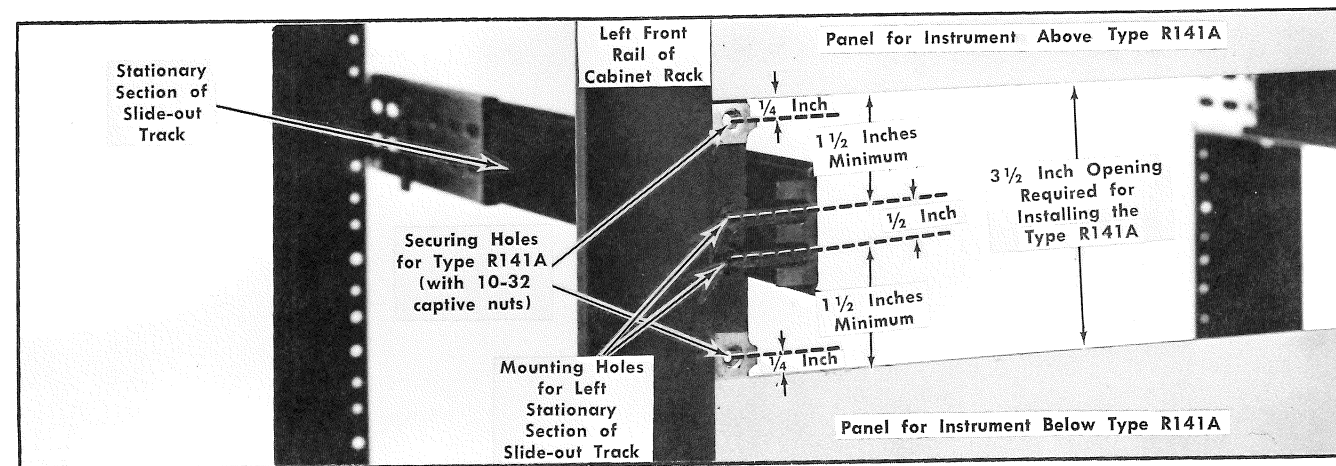

Fig. 9-5. Vertical mounting position of the left stationary section and location of the securing holes. These same dimensions apply to the right front rail.
**Mounting Procedure**—Use the following procedure to mount both sets. See Figs. 9-5 and 9-6 for installation details.
1. To mount the instrument directly above or below another instrument in the cabinet rack, select the appropriate holes in the front rack rails for the stationary sections using Fig. 9-5 as a guide.